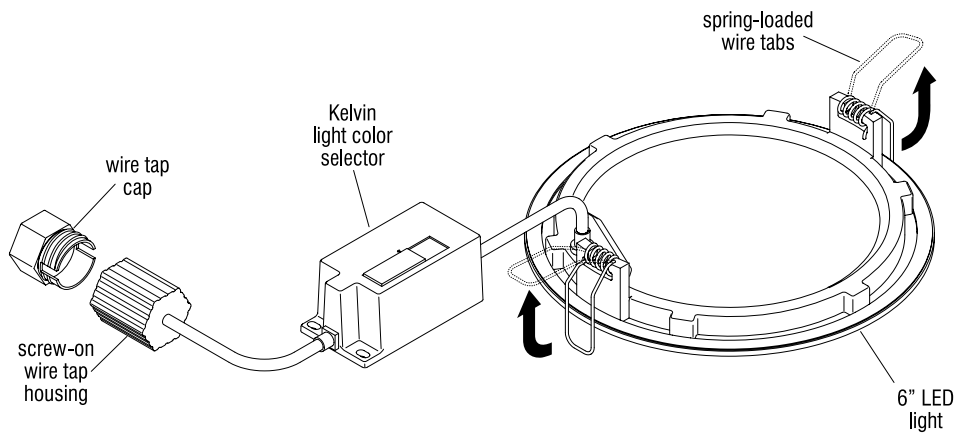

Figure 1
1. Reference Figure 1 to become familiar with the light fixture components (Figure 1).
2. Check each fixture to be sure that the Kelvin light color selector switch is set the same for each of the two lights installing into the ceiling (Figure 1).
3. Locate the two spring-loaded wire tabs, one on each side of the LED light unit, and lift them up as illustrated to understand their operation. Both must be lifted-up and inserted into the hole first while installing each side of the unit into a ceiling cut-out, then they will spring closed to hold the light in place (Figure 1).